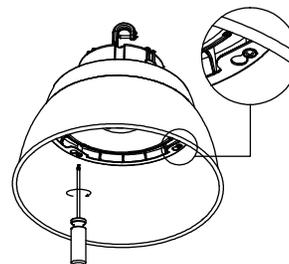

Figure 3
- Lock the screws to secure the reflector/diffuser (Figure 3).
- Hang the fixture to customer supplied chain or mounting hardware (Figure 3).
- Adjust the angle of Bracket A to the desired position and secure the position with locking screw, steel gasket and nut on both sides (Figure 3).